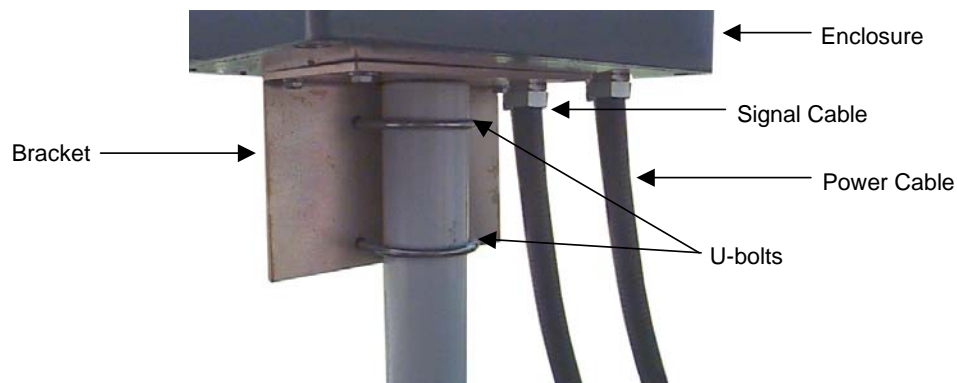

Figure 2. Sensor package mounting
- 6 Set the sensor package (antenna, ground plane, enclosure, and bracket) on the mast, and fasten loosely with two U-bolts, lock washers, and flat washers as shown in **Figure 2**.